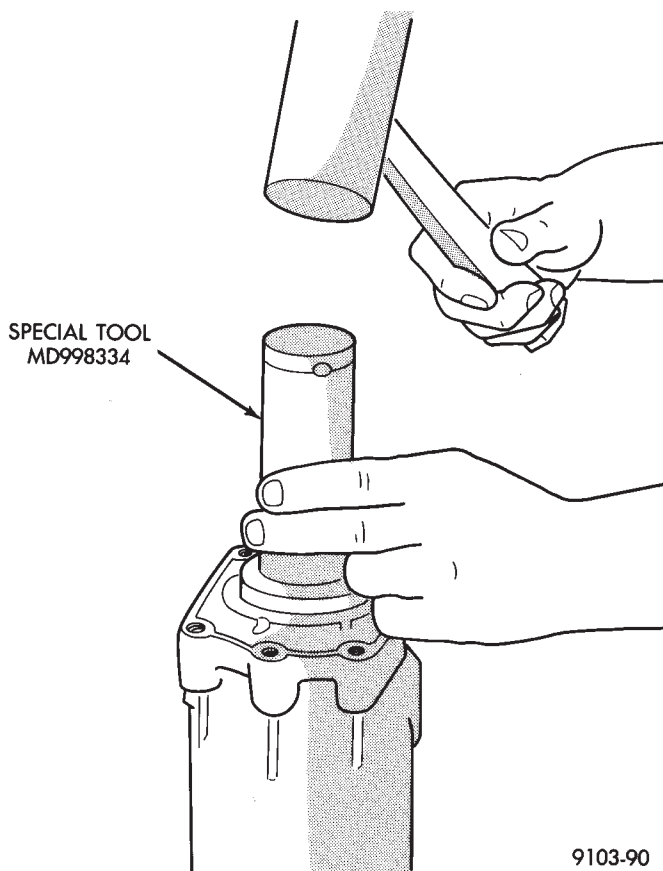

Fig. 17 Installing New Seal
- (1) Clean and inspect shaft sealing surface and case for nicks or grooves. Replace as required.
- (2) Install new seal with special tool MD998334. Seal should be flush with outside edge of case (Fig. 17).
- (3) Install rear torque shaft bearing and outer snap ring.
- (4) Install overrunning clutch case onto torque tube. Tighten bolts to 28 N•m (250 in. lbs.).
- (5) Install torque shaft inner snap ring.
- (6) Slide dog clutch onto shaft and install snap ring.